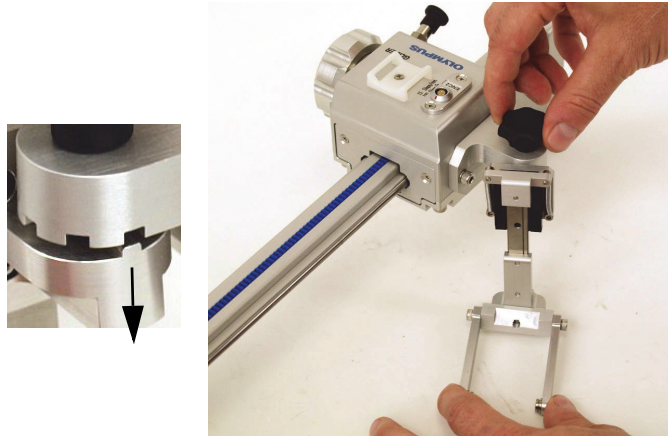

Figure 2-19 Freeing the notch (*left*) and turning the probe holder
2. Free the position-locking notch under the knob and turn the probe holder to the desired position (see Figure 2-19 on page 39).